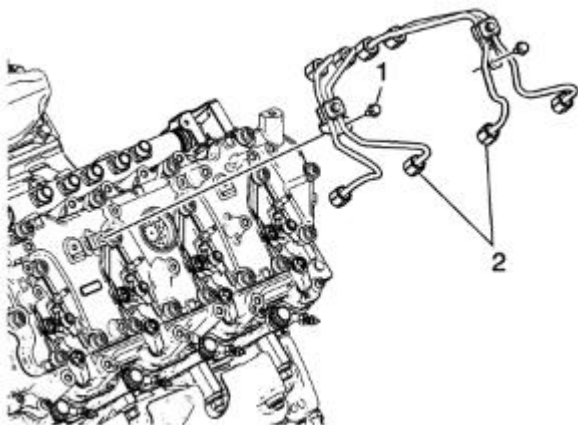

Fig. 94: Fuel injector feed pipe installation
STEP 11: Install the fuel injector feed pipes as shown in figures 94 and 95. Install the nuts onto the high-pressure fuel rail ports and the injectors and torque the nuts (item 2) to 22 ft-lb. Install the mounting bolts (item 1) and torque the bolts to 89 in-lb.